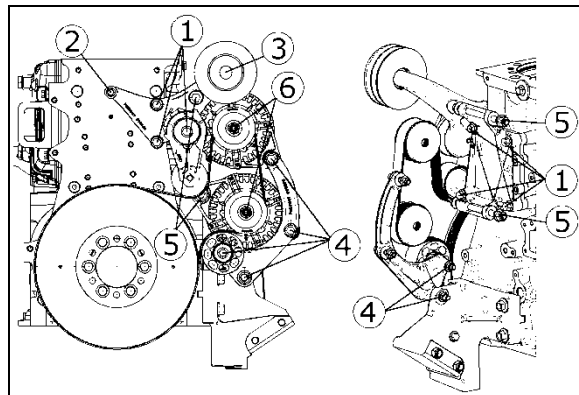
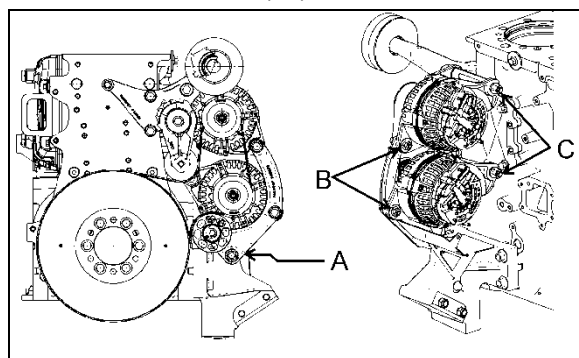

FIGURE 36: TWIN ALTERNATORS INSTALLATION
FIGURE 37: ALTERNATOR MOUNTING - TIGHTENING SEQUENCE
If the alternators needed to be removed, reinstall as follows. Refer to Figure 36 for installation and to Figure 37 for tightening specifications:
1. If necessary, tighten screws (6) fixing alternators support assembly onto engine (1, Figure 36). Torque tighten to 43 lbf-ft, use some Loctite 243 blue (680038) onto the threads. Also tighten screw (1) fixing belt tensioner onto alternators support assembly (1, Figure 36). Torque tighten to 43 lbf-ft, use some Loctite 243 blue (680038) onto the threads.
2. If removed, reinstall screw (1) fixing alternators support assembly onto engine (2, Figure 36). Torque tighten to 22 lbf-ft, use some Loctite 243 blue (680038) onto the threads.
3. Mount the a/c compressor idler pulley onto alternators support assembly (3, Figure 36). Torque tighten to 150 lb-ft, use some Loctite 243 blue (680038) onto the threads.
4. Install alternators arched support loosely onto engine. If removed, install alternators idler pulley (4, Figure 36) onto alternators arched support, torque tighten to 43 lb-ft.
5. Fix lower and upper alternators loosely to alternators support assembly using bolts (5, Figure 36). Also, mount the lower and upper alternators onto alternators arched support. If removed install stone guard below lower alternator.
6. In order to assure installation, it is important to tighten the alternator mounting bolts in the following order (Figure 37).
7. Mount pulleys (6, Figure 36) onto alternators. Torque tighten to 58 lb-ft.